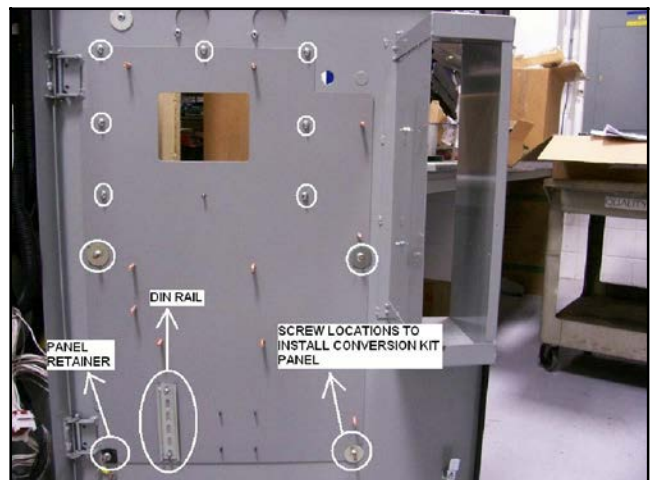
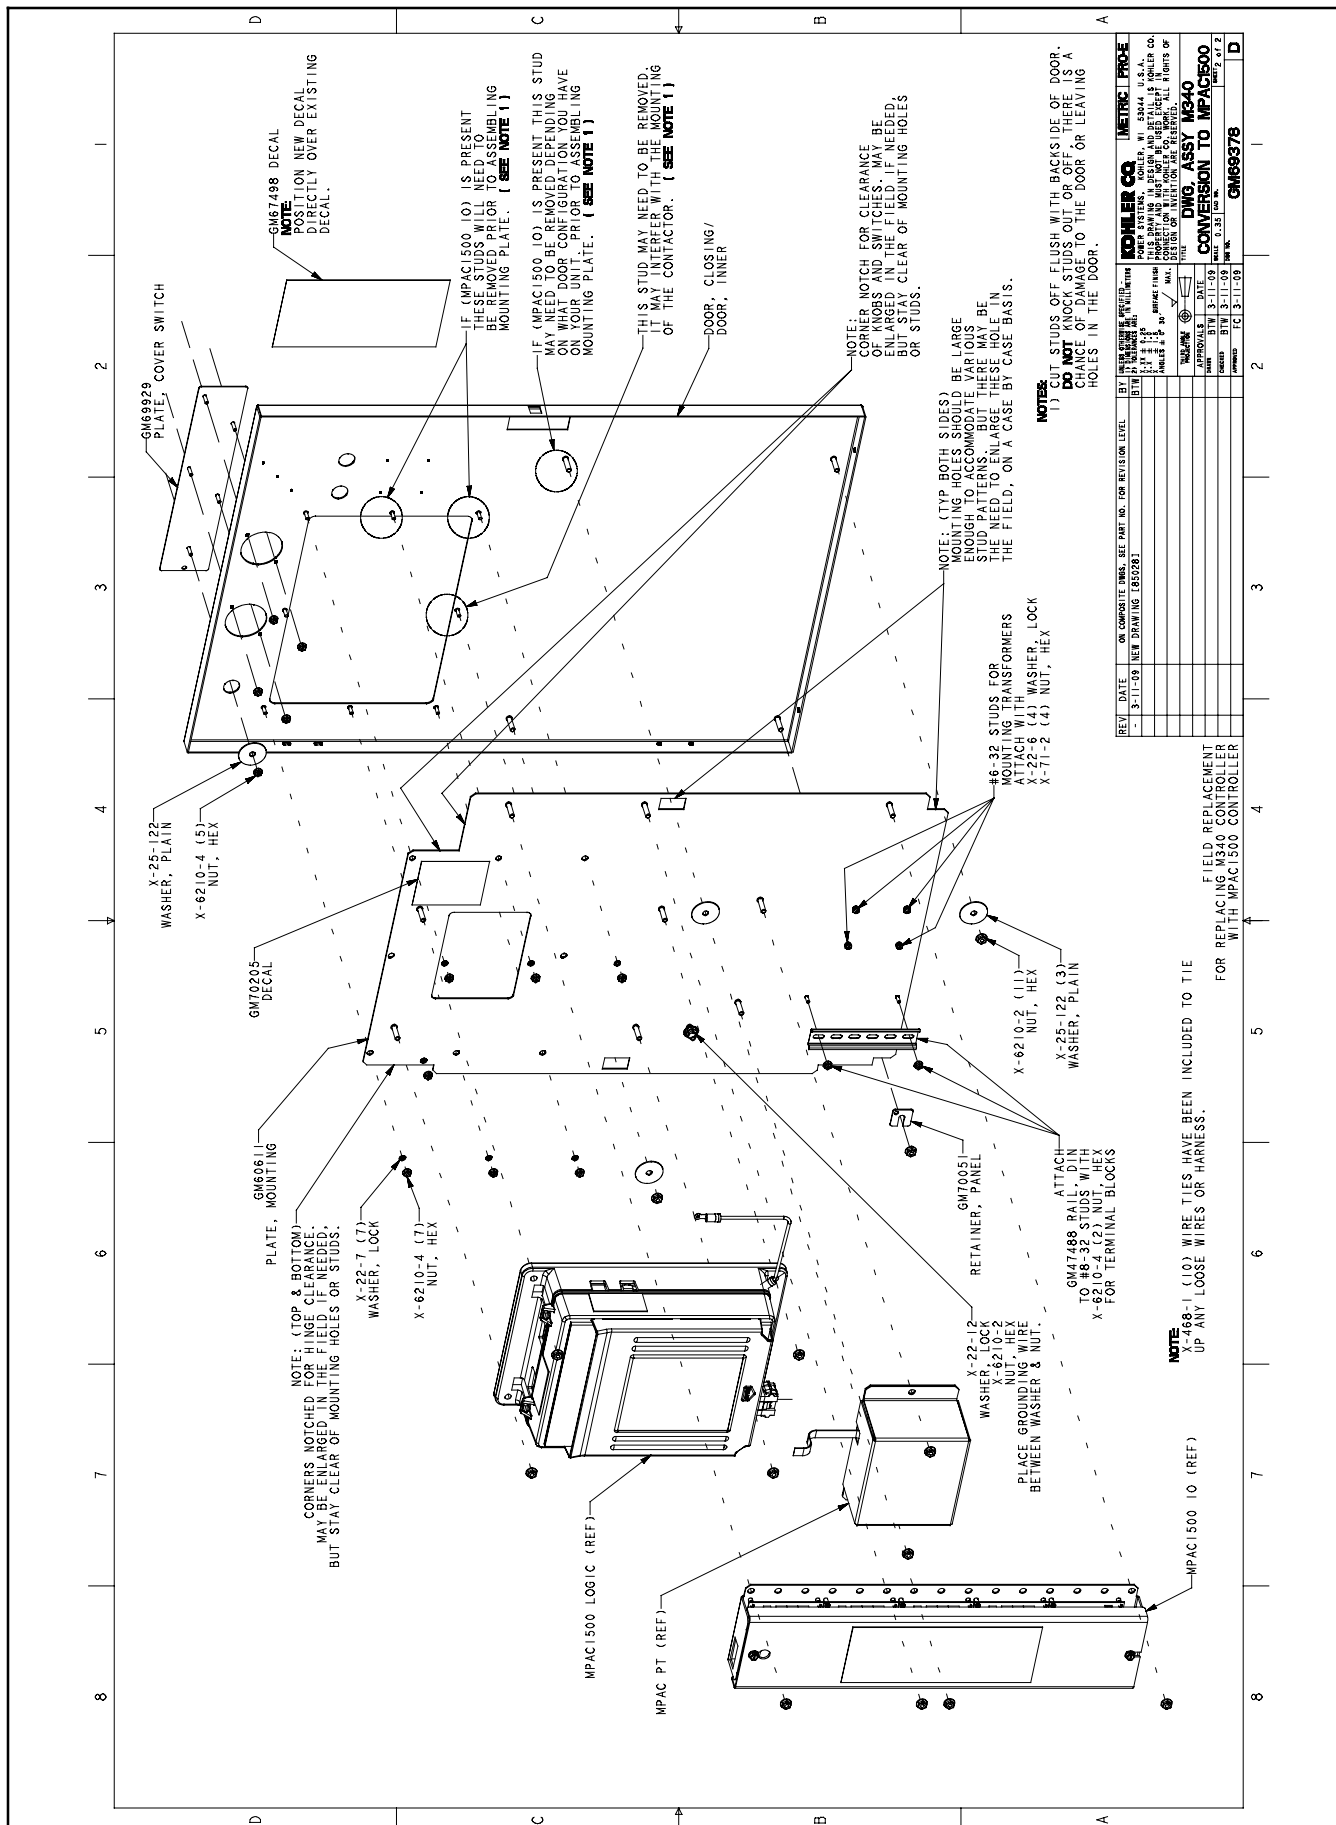
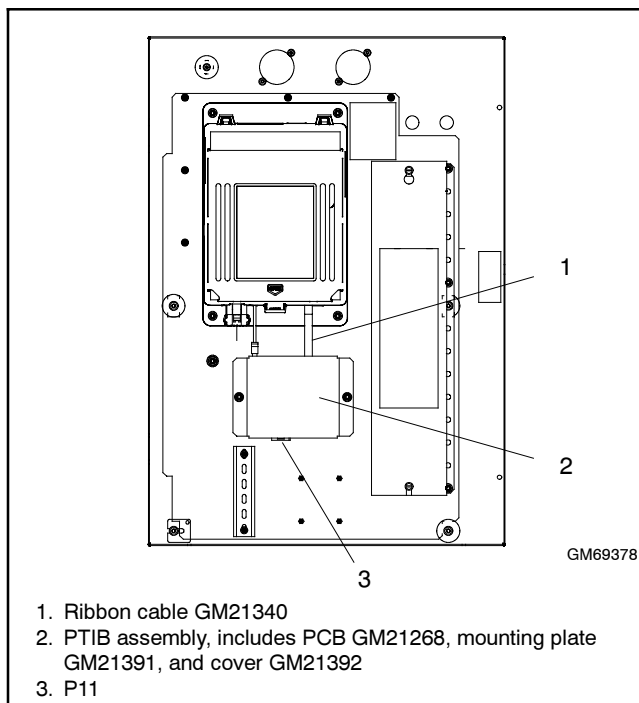

Figure 21 Mounting Plate Installation
Figure 22 Conversion Kit Assembly
Figure 28 PTIB Installation
Note: Refer to the notes in Figure 22 before installing the mounting plate and switch cover plate. Some door studs may need to be cut off and some mounting holes enlarged in the field, depending on the specific application.
17. Install conversion kit mounting plate GM60611. Use seven lock washers X-22-7 and seven nuts X-6210-4 to install the mounting plate as shown in Figure 21 and Figure 22. Install three flat washers X-25-122 with three nuts X-6210-2 as shown.
18. Install DIN rail GM47488 using two nuts X-6210-4. Install panel retainer GM70051. See Figure 21.
19. Install switch cover plate GM69929. Use one washer X-25-122 and five nuts X-6210-4 to install the cover plate as shown in Figure 22 and Figure 23.
23. Place the PTIB assembly onto two studs on the mounting plate. See Figure 22 and Figure 28 for the location.
48. Connect P11 of the conversion kit wire harness to P11 on the PTIB. See Figure 28 for the location of P11 on the PTIB.